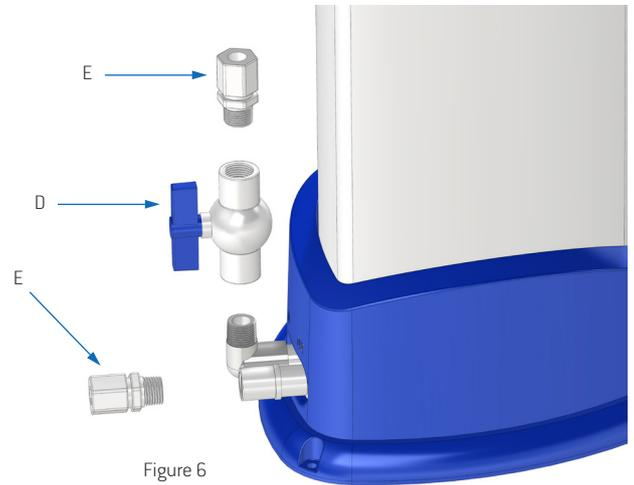

Figure 6
1. Complete feeder assembly with parts part D, ball valve, and part E, tubing connector (figure 6).